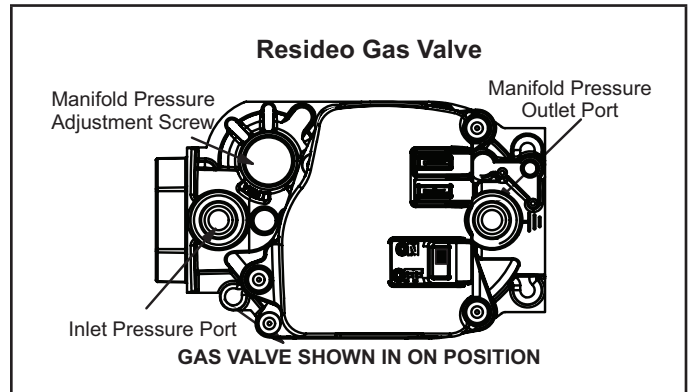

FIGURE 55
Gas Valve Operation (FIGURE 55)
- 6 - Move gas valve switch to **OFF**. See FIGURE 55.
- 8 - Move gas valve switch to ON. See FIGURE 55.